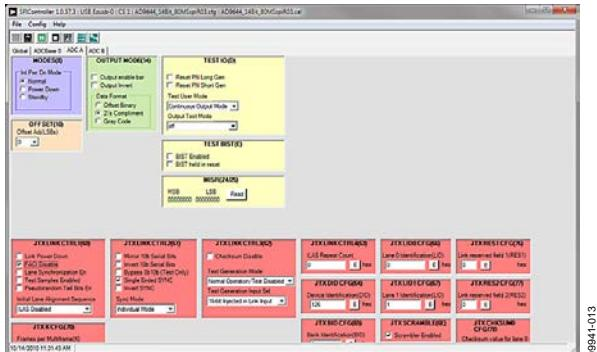

Figure 13. SPI Controller, Example ADC A Tab
- If Configuration B (two converters, one JESD204A link, two lanes per link) is selected, click the **FACI Disable** check box in the **JTX LINK CTRL1** box (shown in Figure 13) for both Channel A and Channel B (**ADC A** and **ADC B** tabs) for the AD9644, or for only Channel A (**ADC A** tab) for the AD9641. Changing this selection sets the part to match the expected FPGA input configuration.